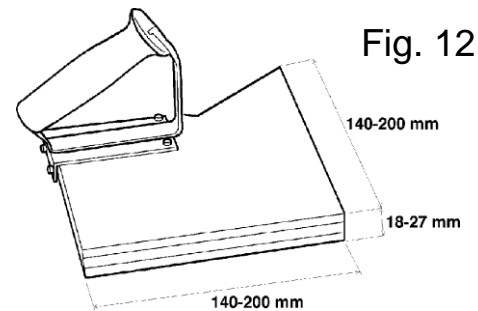
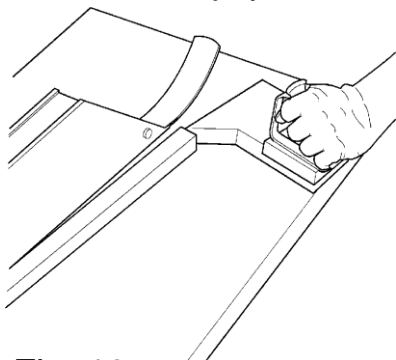

Fig. 12
Fig. 13
To use the transversal square, proceed to the desired angle by acting on the knob (a fig. 12).
- **The side pusher** (Fig.12, Fig.13), allows you to guide the pieces tight against the square. In addition, the tip of the side pusher should be used to remove the small scraps left near the blade.